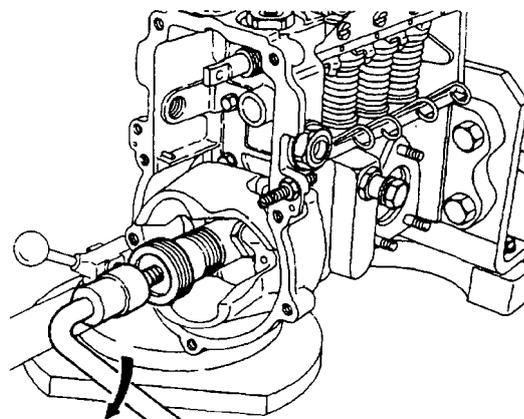

Figure 92 Removing the Flyweights
- o. Position the coupling spanner (Table 3, Serial 19) on the camshaft coupling to prevent the camshaft from turning and remove the flyweight retaining nut using the wrench (Table 3, Serial 20) and the lever (Table 3, Serial 23). Install the extractor (Table 3, Serial 24) into the flyweights and remove the flyweights (Figure 92).